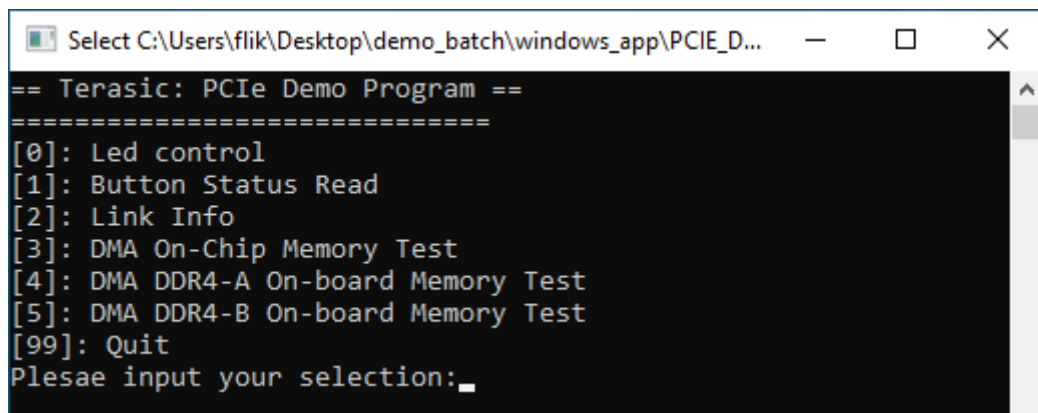

Figure 6-10 Screenshot of Program Menu
14. Go to windows_app folder, execute PCIE_DDR4.exe. A menu will appear as shown in **Figure 6-10**.